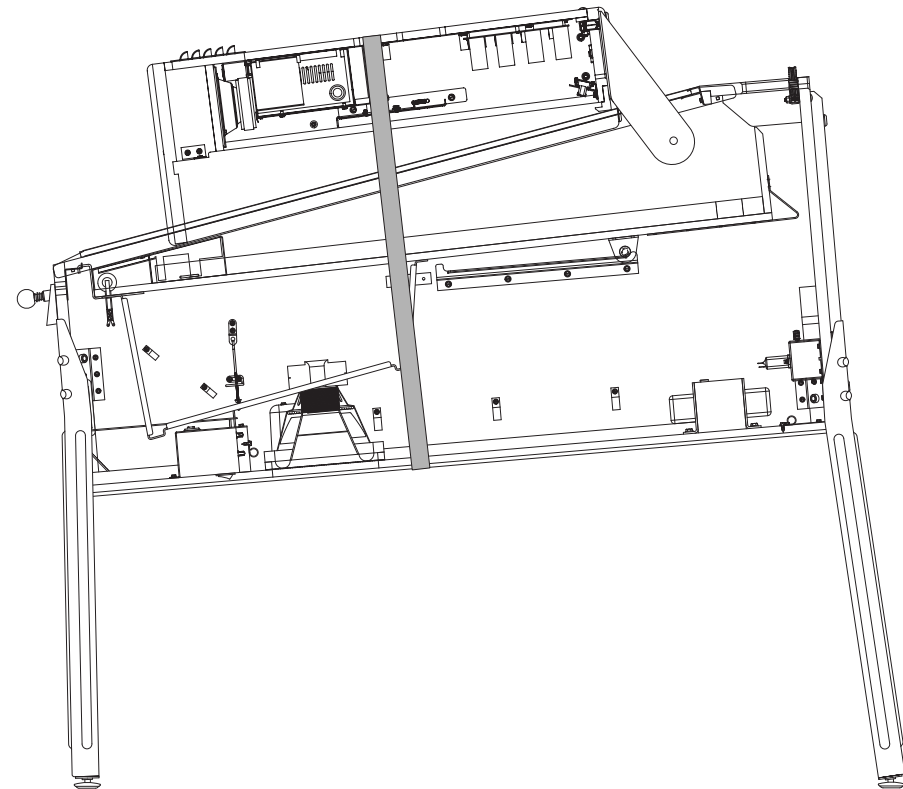

**Figure A16. Assembled plumb bob tilt mechanism.**
**16)** Locate the plumb bob weight and nylon wing nut in the loose parts. Locate the plumb bob tilt hanger wire and contact brackets, mounted on the inside, left sidewall of the lower cabinet. Slide the weight onto the straight end of the hanger wire and thread the wing nut onto the shaft underneath it (figure A16). Raising the weight higher up the hanger wire (by tightening the wing nut underneath it) makes the tilt mechanism more sensitive; lowering the weight makes it less sensitive.